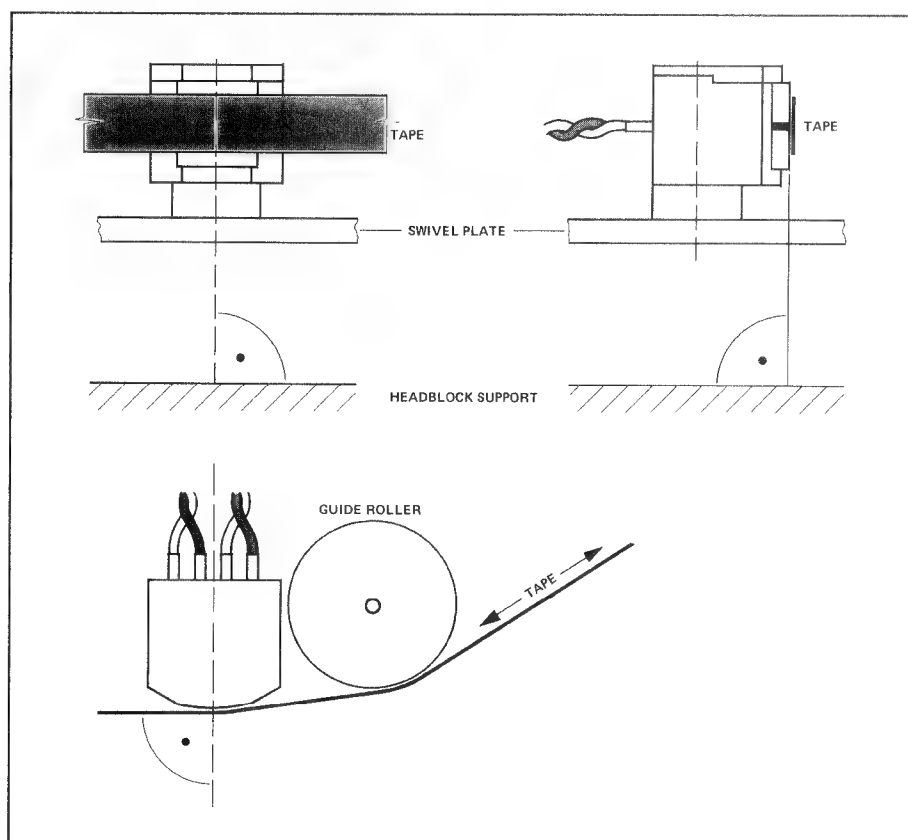

Fig. 4.9.1
- For lateral inclination (refer to drawing A in Fig. 4.9.1) by means of the azimuth screw, and for
- Forward/backward inclination (refer to drawing B in Fig. 4.9.1) by means of the set screws.